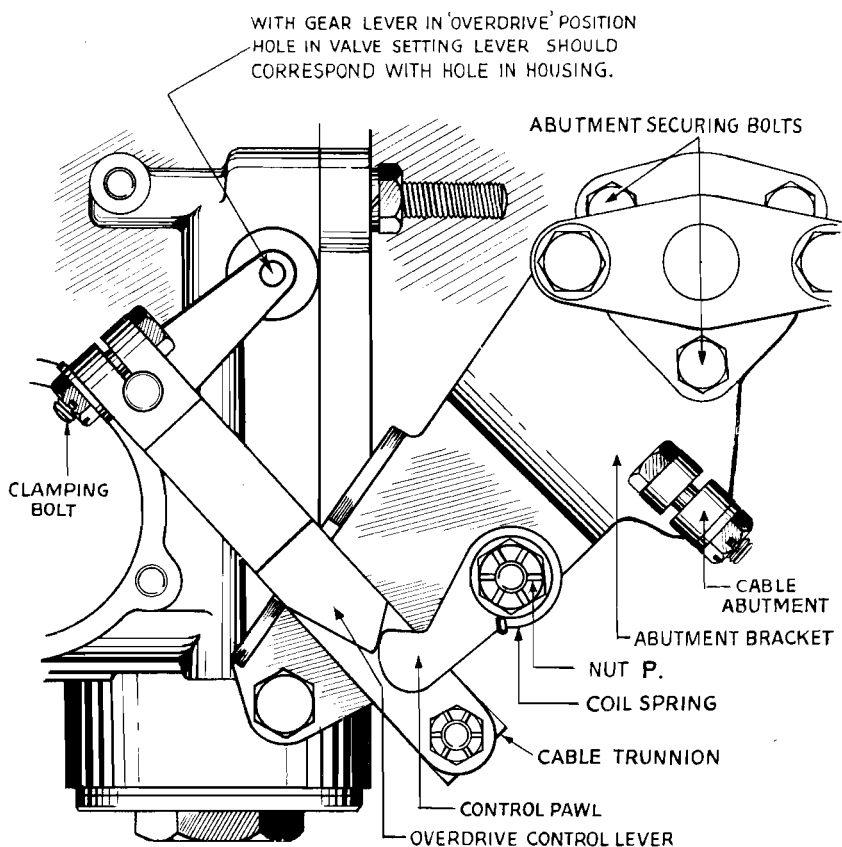

Fig. 5. Showing attachment of control and setting of operating lever.
4. Remove the two bolts at the rear of the "first" and "reverse" selector shaft bush and assemble abutment bracket as shown in Fig. 5, securing the bottom end of the abutment bracket with a special $\frac{5}{16}$ " N.F. \times $\frac{5}{8}$ " bolt, supplied with the Overdrive Unit.
10. On the right hand side of the Unit and pinned to the control spindle is a lever with a $\frac{3}{16}$ " diameter hole. In the casting adjacent to this lever is also another $\frac{3}{16}$ " dia. hole. The operating lever should be rotated with its spindle until the two $\frac{3}{16}$ " holes coincide and then a $\frac{3}{16}$ " diameter pin inserted through the lever and into the casting, thus locking the control spindle. (See Fig. 5).
11. Position the large operating lever against the bottom stop on its abutment bracket, as shown in Fig. 5 and tighten clamping bolt at the upper end of this lever and withdraw $\frac{3}{16}$ " diameter bar. The gearbox is now ready to be installed in the chassis.
33. Move the control lever on the overdrive unit until it reaches the top stop on its abutment bracket. Fig. 5 shows this lever against the bottom stop on the abutment. Feed in overdrive cable and adjust nuts. Fit cable support clip on convenient housing bolt.
In this position of the hand lever the control arm on the overdrive unit should be against the bottom abutment stop and the $\frac{3}{16}$ " dia. hole on the checking lever aligned with the hole in the casting (see Fig. 5). Check the alignment of these holes. The correct alignment of these holes ensures correct operating valve lift in overdrive unit.